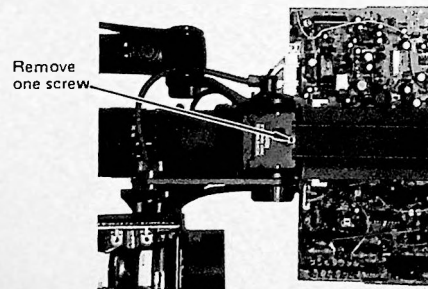

Fig. 7-3
- Remove the EVF mounting base by removing the one fixing screw. (Fig. 7-3)